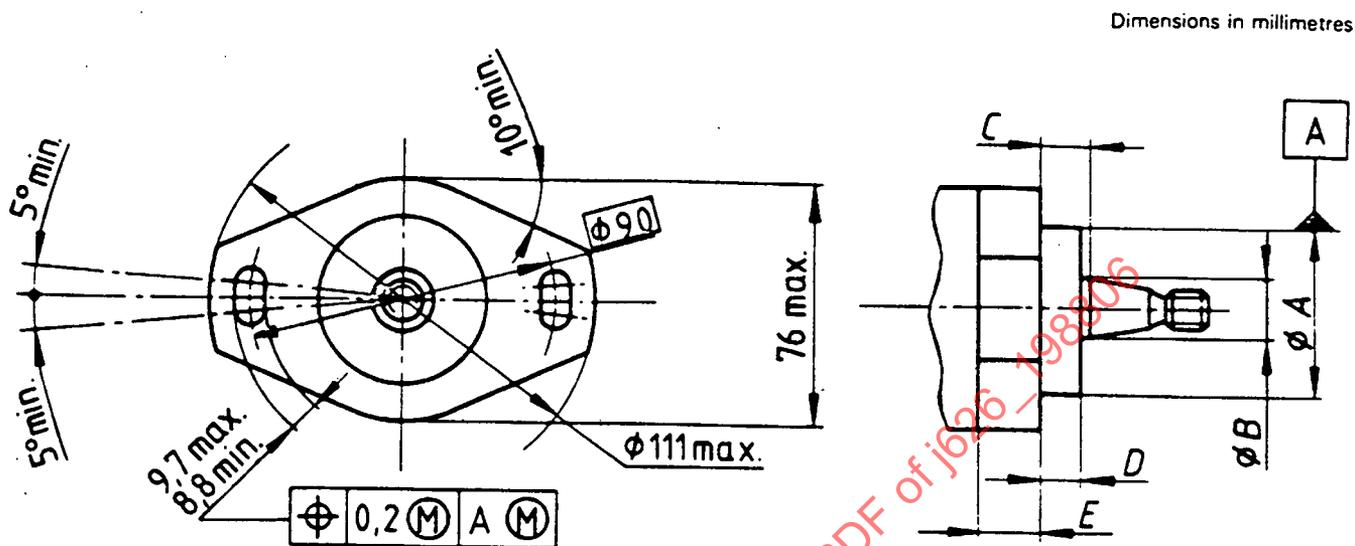

FIGURE 1 - Fuel Injection Pumps - Type 1 End-Mounting Flange
3.2.1 Type 1 Flange: See Fig. 1 and Table 1: